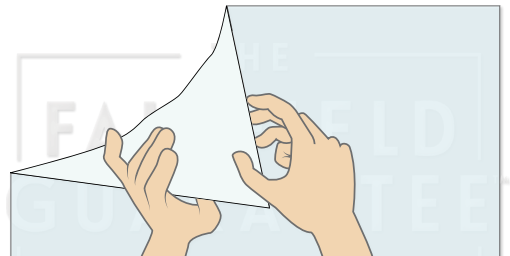

Figure 2
- j. Once you are sure the vinyl is securely attached to the glass, carefully remove the application tape starting at the top and pulling it at a 180 degree angle back over itself. (See Figure 2) Then rub the entire graphic with the felt section of the squeegee.